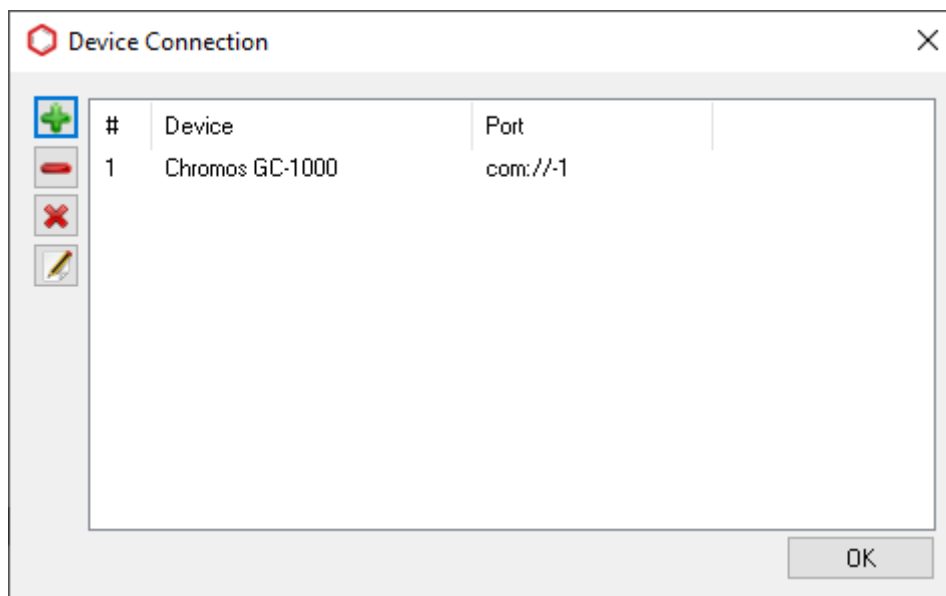

Fig. 18: Device Connection
2. In the *Devices* menu, select **Connection...** The *Device Connection* window opens (Fig. 18):